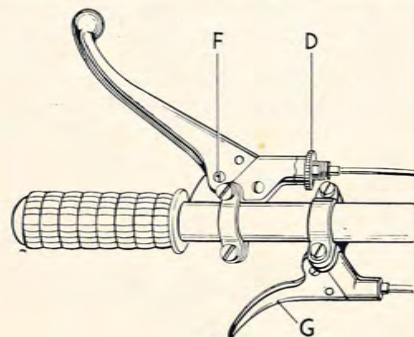

Fig. 3.
Clutch. The lever is mounted on the left handlebar and its position can be adjusted as required. The looseness of the lever is adjusted by rotation of screw (F) Fig. 3, after slackening its locknut. Grip the lever to free the clutch (i.e. disengage the drive between the motor and the rear wheel). Finger adjustment for the clutch cable is provided at the adapter (D) Fig. 3, on the lever. A greasing point is provided in the cable at (B), Fig. 19.
Exhaust Valve Lifter. This is the small lever (G) Fig. 3, mounted on the left handlebar and it must be depressed in order to raise the exhaust valve and thereby relieve compression. An adjuster is provided at the engine end of the cable.